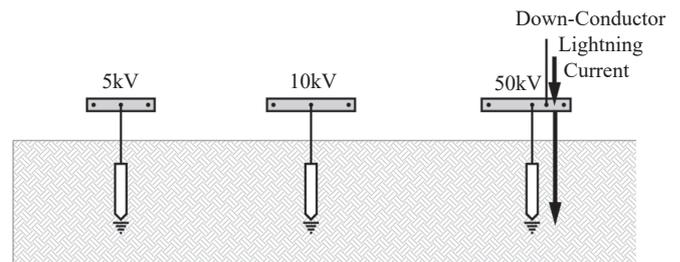

Figure 3.2: Worst Practice
3.2 Worst practice: In Figure 3.2 there are three separate earthing systems. During a typical lightning strike the lightning protection earth bar (right) reaches 50kV. The other two earth bars have a small rise in potential as the lightning current affects the surrounding soil. There are large potential differences between the earth bars (up to 45kV), which may cause serious problems. This practice should be avoided at all costs.